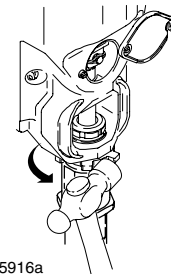

Fig. 13
6. Fig. 13. Screw jam nut (12) up onto pump until nut stops. Tighten jam nut by hand, then tap 1/8 to 1/4 turn with a 20 oz (maximum) hammer to approximately 75 +/- 5 ft-lb (102 N·m).